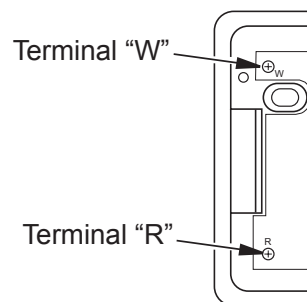

Figure 23 - Thermostat Base Terminals "W" and "R"
6. Connect one bare wire end to each terminal ("W" and "R") of the thermostat base (see Figure 23).